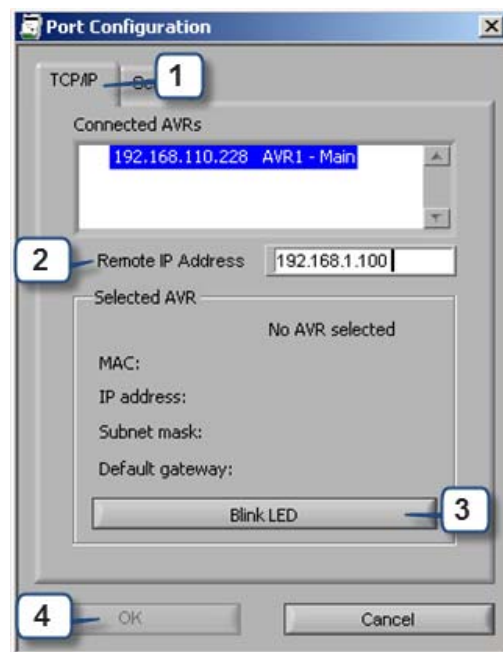

Figure 6-4 Remote IP Address Configuration.
1. To connect to the AVR using a TCP/IP connection, select the "TCP/IP" tab first. See *Figure 6-4*.